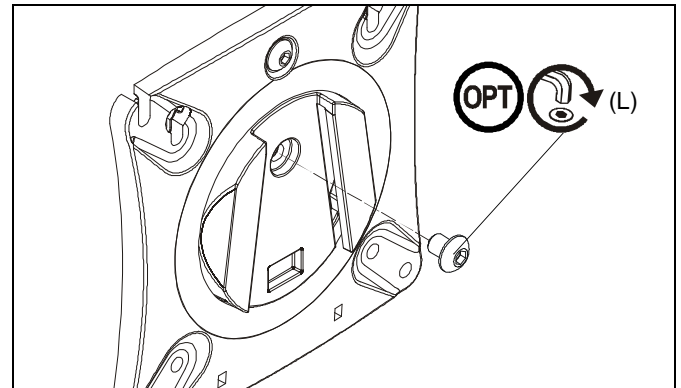

Figure 15
**NOTE:** (Optional) Rotational adjustment may be locked by installing rotational locking screw (L) into back of faceplate. (See Figure 15)